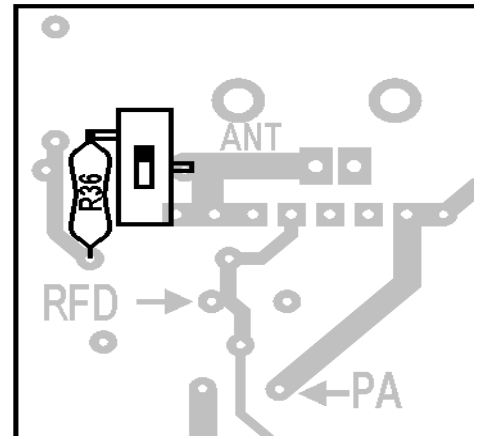

Figure 6
- O. Refer to Figure 6, next page. Lay the switch against the PC board so its CENTER pin overlays the empty hole on the land labeled "ANT" where one end of R36 once was. Position the TOP LEFT pin just above the top of the land labeled "RFD". Be sure the switch is straight and solder the center pin to the "ANT" land.